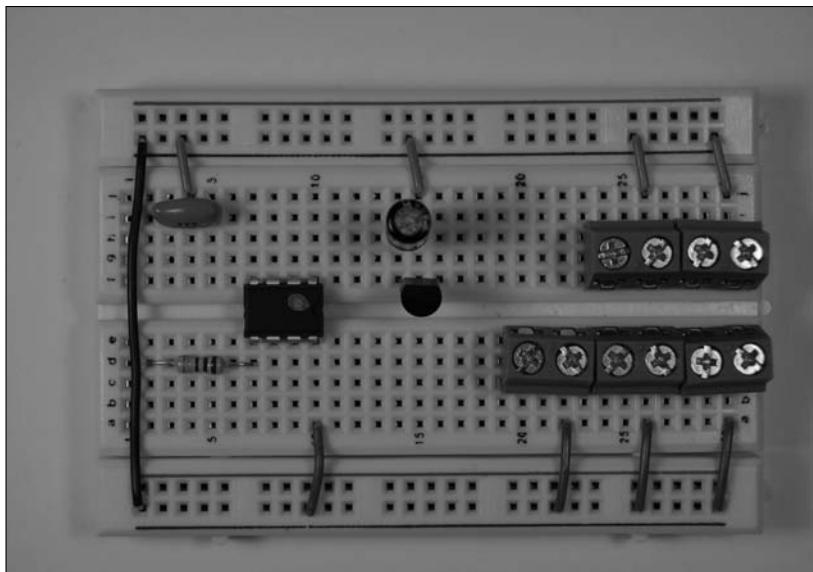

Figure 11-10:
3. Insert wires to connect each component and terminal to the ground bus and insert a wire between the two ground buses to connect them, as shown in Figure 11-10.